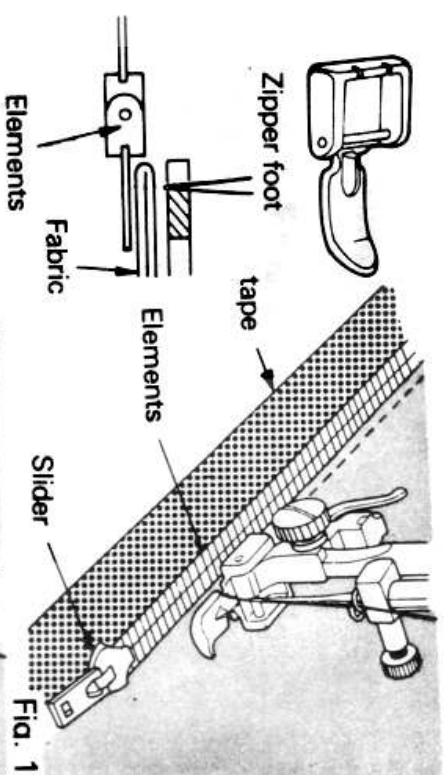

Fig. 1
1. Turn up the hem with the desired width and press. (Fig. 1)
(Fig. 1)